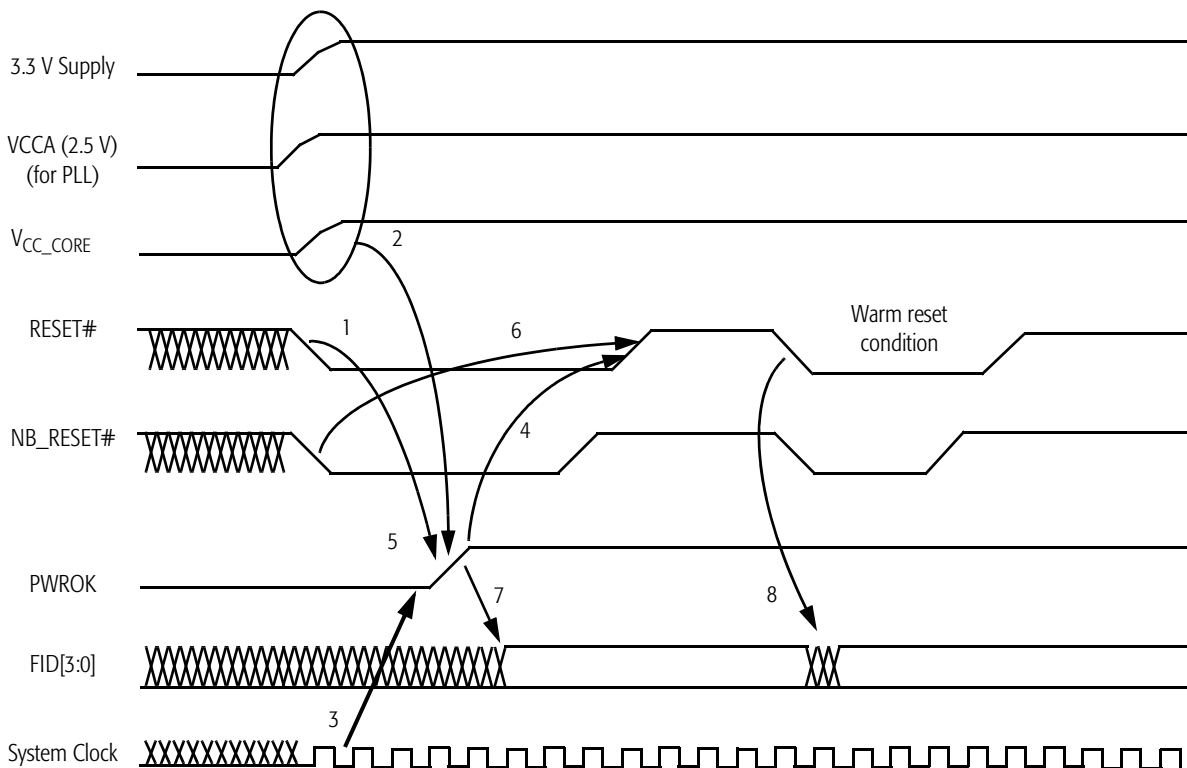

Figure 12. Signal Relationship Requirements During Power-Up Sequence
Figure 12 shows the relationship between key signals in the system during a power-up sequence. This figure details the requirements of the processor.
1. Figure 12 represents several signals generically by using names not necessarily consistent with any pin lists or schematics.
2. Requirements 1–8 in Figure 12 are described in “Power-Up Timing Requirements” on page 40.